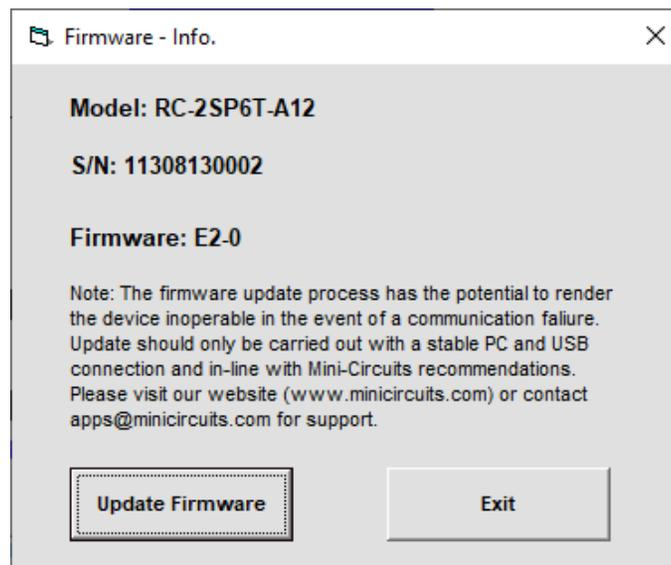

Figure 3.5.4: Firmware Information Window
3.5.4 **Click on the '(fw)' indicator**, this will cause the firmware - info window to open (See Fig. 3.5.4). The 'Firmware' listed is the version of the firmware installed in your switch matrix. Click on "Update Firmware" to select a new firmware version to install or click 'Exit' to close the firmware - info window.